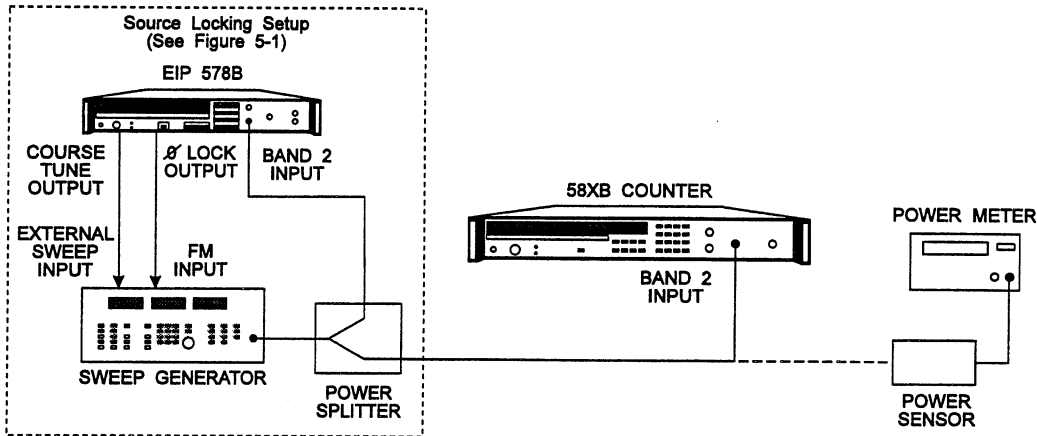

Figure 5-5. Band 2 CW Signal Range and Sensitivity Test Setup.
1. Connect equipment as shown in Figure 5-5.